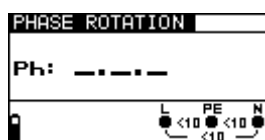

Figure 5.43: Phase rotation test menu
Step 2 Follow the connection diagram shown in figure 5.43 to test phase sequence.